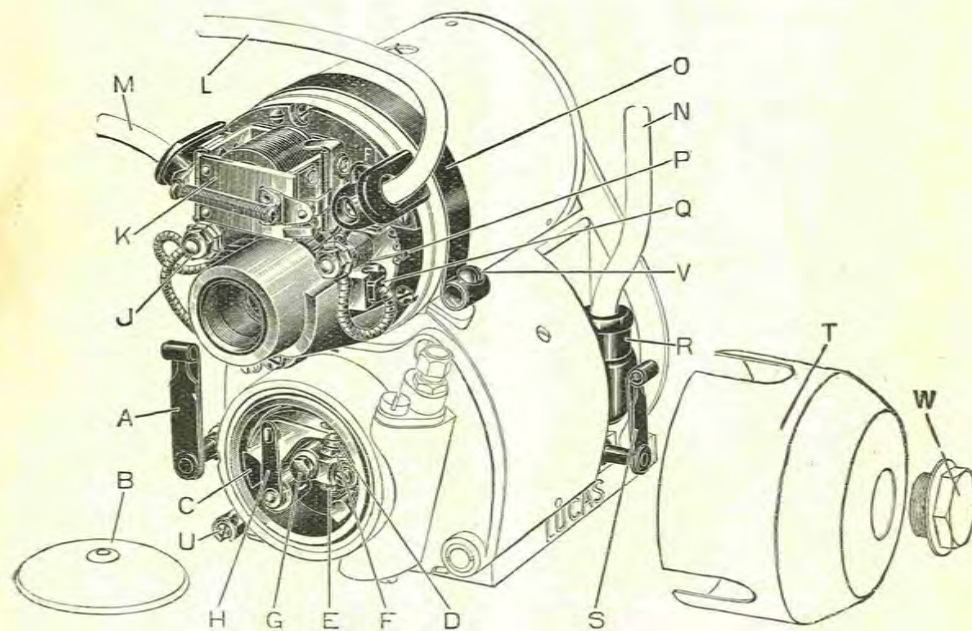

Fig. 1. VIEW OF "MAGDYNO."
Cleaning. Occasionally examine the contact breaker, the contacts 'D' (Fig. 1) must be kept clean and free from any traces of oil.
Next remove the pick-up 'R' (Fig. 1). Wipe the moulding clean with a dry cloth. See that the carbon brush moves freely in its holder, being careful not to stretch the brush spring unduly.
Adjustment of the Contact Breaker. The contacts only need adjustment at long intervals, and unless the gap varies considerably from the gauge (12 thousands), the owner is warned that it is not desirable to alter the setting. To adjust, turn the engine slowly by hand until the points are seen to be fully opened. Then slacken the locking nut 'E' (Fig. 1), and rotate the contact screw by its hexagon head until the gap is set to the gauge on the magneto spanner. After the adjustment tighten the locking nut.
4. Remove contact breaker cover and turn magneto spindle in its normal direction of rotation until the fibre heel 'C' (Fig. 1) begins to rise on the inclined plane of the cam ring just sufficiently to separate the points 'D.' This position is the firing point, and the magneto sprocket should be permanently fixed in this position.